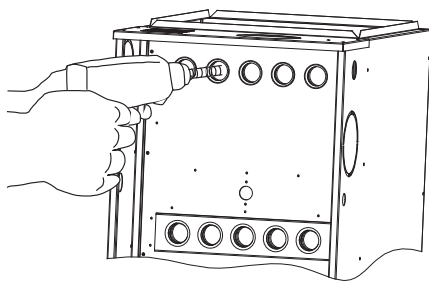

Fig. 14-3 Cleaning Heat Exchanger Cell
- (1). Attach variable-speed, reversible drill to the end of spring cable (end opposite brush).
- (2). Insert brush end of cable into the outlet opening of cell and slowly rotate with drill. DO NOT force cable. Gradually insert cable into upper pass of cell. (See Fig. 14-3.)
- (3). Work cable in and out of cell 3 or 4 times to obtain sufficient cleaning. DO NOT pull cable with great force. Reverse drill and gradually work cable out.
- (4). Insert brush end of cable in burner inlet opening of cell, and proceed to clean 2 lower passes of cell in same manner as upper pass.
- (5). Repeat foregoing procedures until each cell in furnace has been cleaned.
- (6). Using vacuum cleaner, remove residue from each cell.
- (7). Using vacuum cleaner with soft brush attachment, clean burner assembly.
- (8). Clean flame sensor with fine steel wool.
- (9). Reinstall burner assembly. Center burners in cell openings.